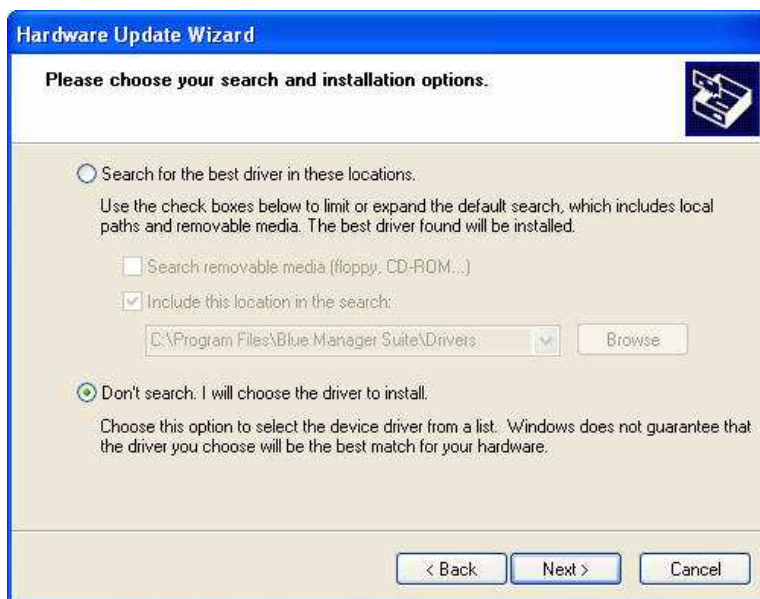

Figure 1-14. Atheros Driver Updating Options
6. You will see the installation option. See Figure 1-14.